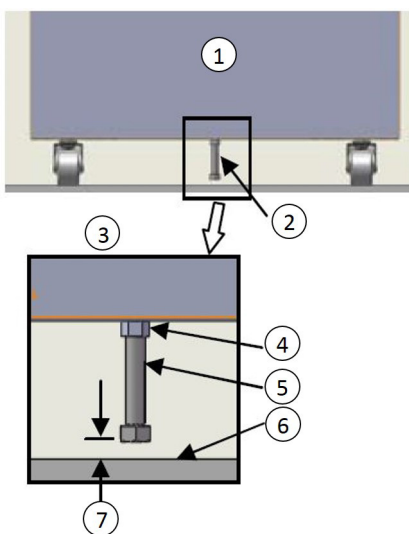

Figure 2. Bolt Location
- b. Unscrew 1/2" bolt until there is 1/2" clearance between floor and head of bolt as shown in the *Figure 2*.